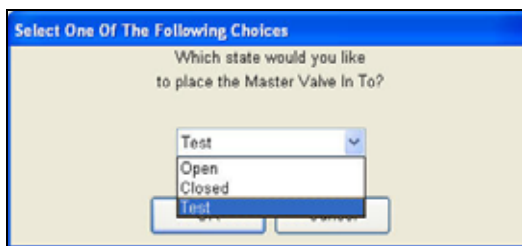

Figure 7.1.4
- With the station running, select the **Master Valve** key. Click on the **DOWN** arrow and select Test. Click **OK** (Figure 7.1.4).